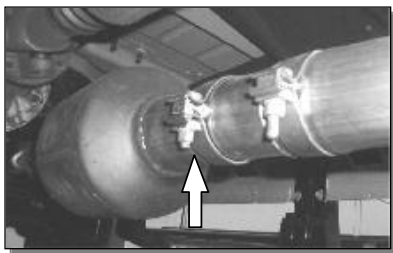

Figure 1
2. Loosen the nut on the band clamp located behind the catalytic converter using a 15mm wrench or socket. **See Figure 1.**